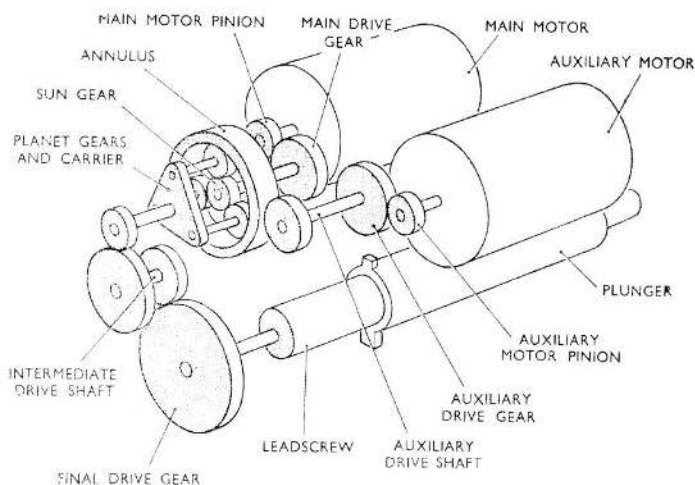

Fig. 3. Reduction gear trains
6. The gear trains (*fig. 3*) consist of two initial spur gear reduction trains (main and auxiliary), and intermediate epicyclic type differential stage, and a final spur gear train, arranged to give a total ratio of 32:2: 1.